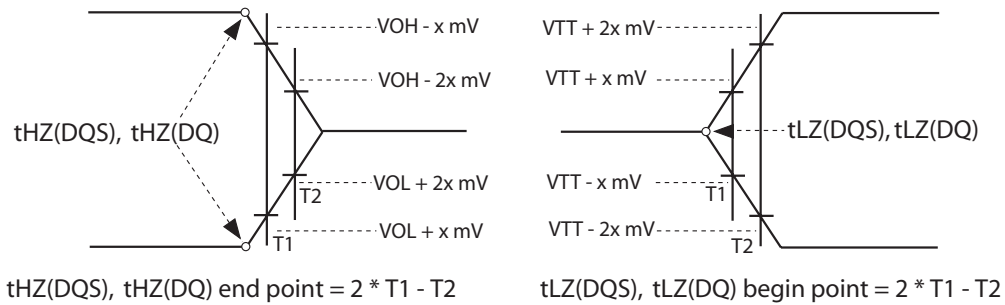

Figure 27 — tLZ and tHZ method for calculating transitions and endpoints
$t_{LZ}(DQS)$, $t_{HZ}(DQS)$ for preamble/postamble (see 4.13.2.3 and Figure 27)
4.13.2.3 tLZ(DQS), tLZ(DQ), tHZ(DQS), tHZ(DQ) Calculation
tHZ and tLZ transitions occur in the same access time as valid data transitions. These parameters are referenced to a specific voltage level which specifies when the device output is no longer driving tHZ(DQS) and tHZ(DQ), or begins driving tLZ(DQS), tLZ(DQ). Figure 27 shows a method to calculate the point when device is no longer driving tHZ(DQS) and tHZ(DQ), or begins driving tLZ(DQS), tLZ(DQ) by measuring the signal at two different voltages. The actual voltage measurement points are not critical as long as the cal-